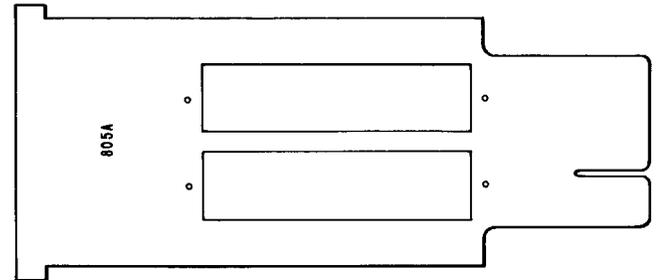

Fig. 5—805A Voltage Divider Network Tester Tool
**2.11 805A:** The 805A voltage divider network tester tool (Fig. 5) is used in replacing the Automatic Number Identification Type B (ANI-B) identifier circuit, SD-95810-01, with the new identifier circuit, SD-1C593-01.